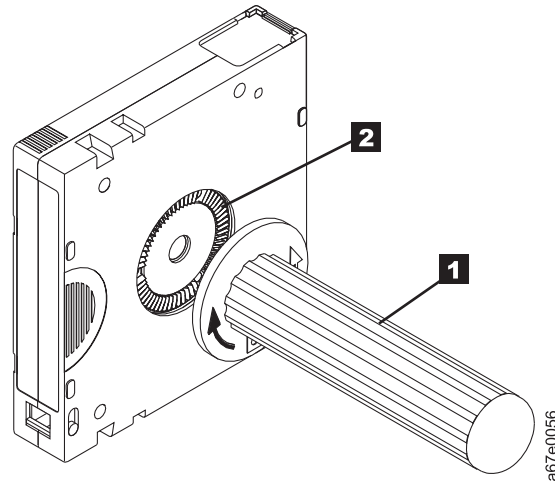

Figure 4-10. Rewinding the tape into the cartridge
5. To rewind the tape, insert the cartridge manual rewind tool (**1** in Figure 4-10) into the cartridge's hub (**2**) and turn it clockwise until the tape becomes taut.